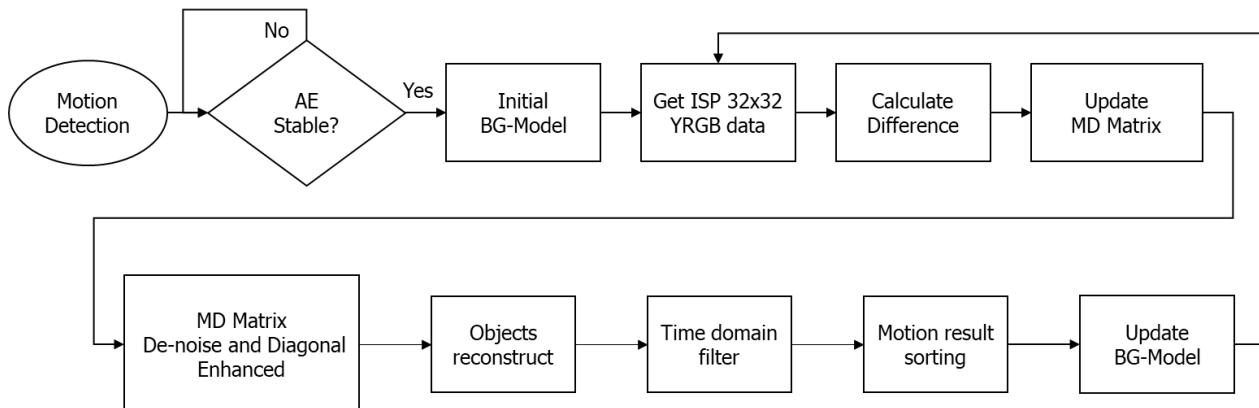

Figure 15-7 Motion detection architecture
Motion detection architecture is shown in Figure 15-7. First, it will confirm whether the value of the automatic exposure (AE) is stable. After stabilization, get 32x32 YRGB value to initialize the background model. The 32x32 YRGB value is calculated by averaging the RGB image generated by from video channel 4. After initialization, calculate the difference between the YRGB values and the background model and the average difference of the entire image. Use the difference information to determine whether to trigger motion detection and update the background model immediately.